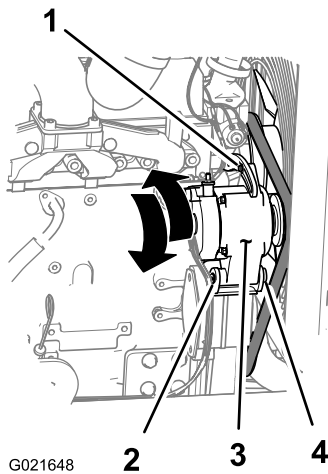

Figure 111
3. Loosen the nut and bolt at the pivot point for the alternator (Figure 111).
4. Loosen the adjustment bolt on the alternator (Figure 111).
5. Move the alternator away from the engine to increase the belt tension; move the alternator toward the engine to decrease the belt tension (Figure 111).
6. Tighten the alternator adjustment bolt (Figure 111).
8. If the belt tension is correct, tighten the nut and bolt at the pivot point for the alternator (Figure 111); otherwise repeat steps 4 through 7.